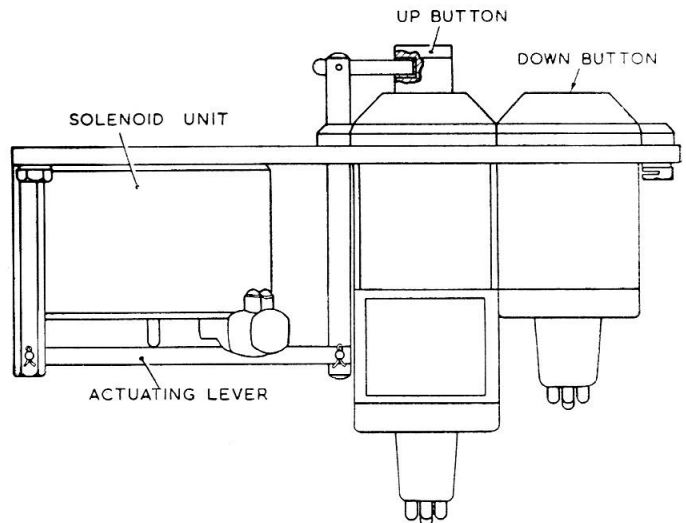
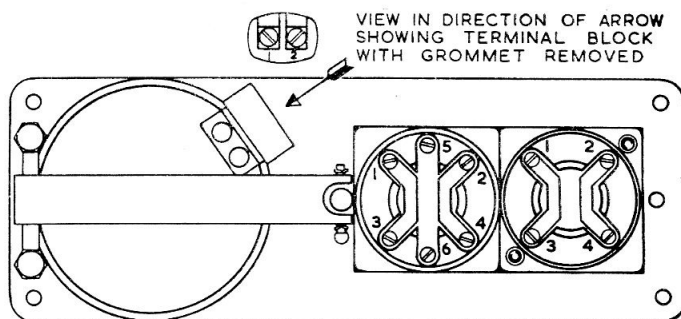

Fig. 1. Push-switch, solenoid operated, Type C7601Y
Fig. 2. Terminal arrangement
2. A side elevation of the switch is shown in fig. 1 and the terminal arrangement is shown in fig. 2. The two switch buttons are interlocked so that only one button may be in at a time. As one button is depressed, it forcibly ejects the button already in.